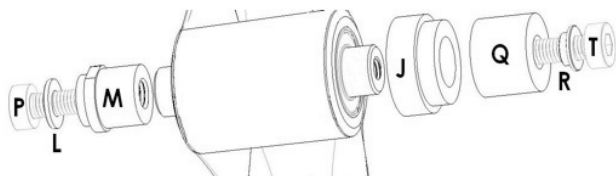

Fig. 4
2. To remove the bearings from the Seat Tube orient the tools as seen in Fig. 4. Holding Tool "M" with a 15mm open wrench will prevent the Link Axle from spinning as you tighten the M6 x 35mm bolt (T). This will draw the axle from the frame, bringing one bearing with it. Once the first bearing is removed, repeat this step for the other bearing.